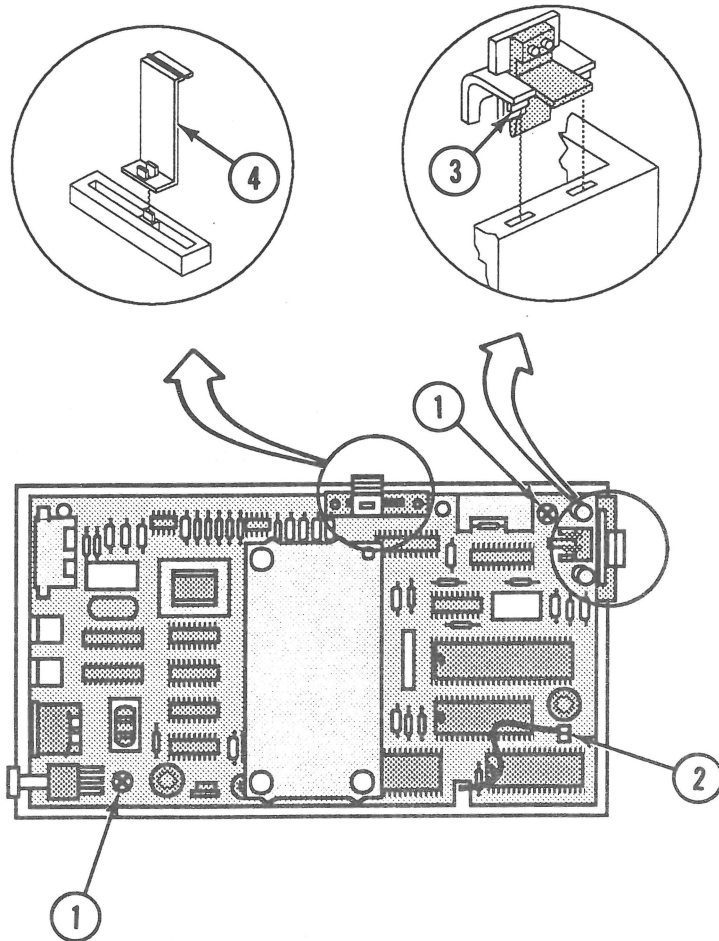

FIGURE 5
3. Replace the two Phillips screws (Figure 5, #1).
4. Plug the speaker cable into the connector on the main logic board (Figure 5, #2).
5. Replace the light pipe assembly (Figure 5, #3).
6. Replace the volume lever (Figure 5, #4).